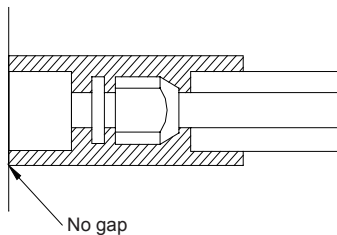

Fig.19
- (1). The refrigerant pipe should be insulated with insulating material and plastic tape in order to prevent condensation and water leakage.
- (2). The joints of the indoor unit should be wrapped with insulating material with no gap allowed on the joint of the indoor unit, as shown in Fig.19.